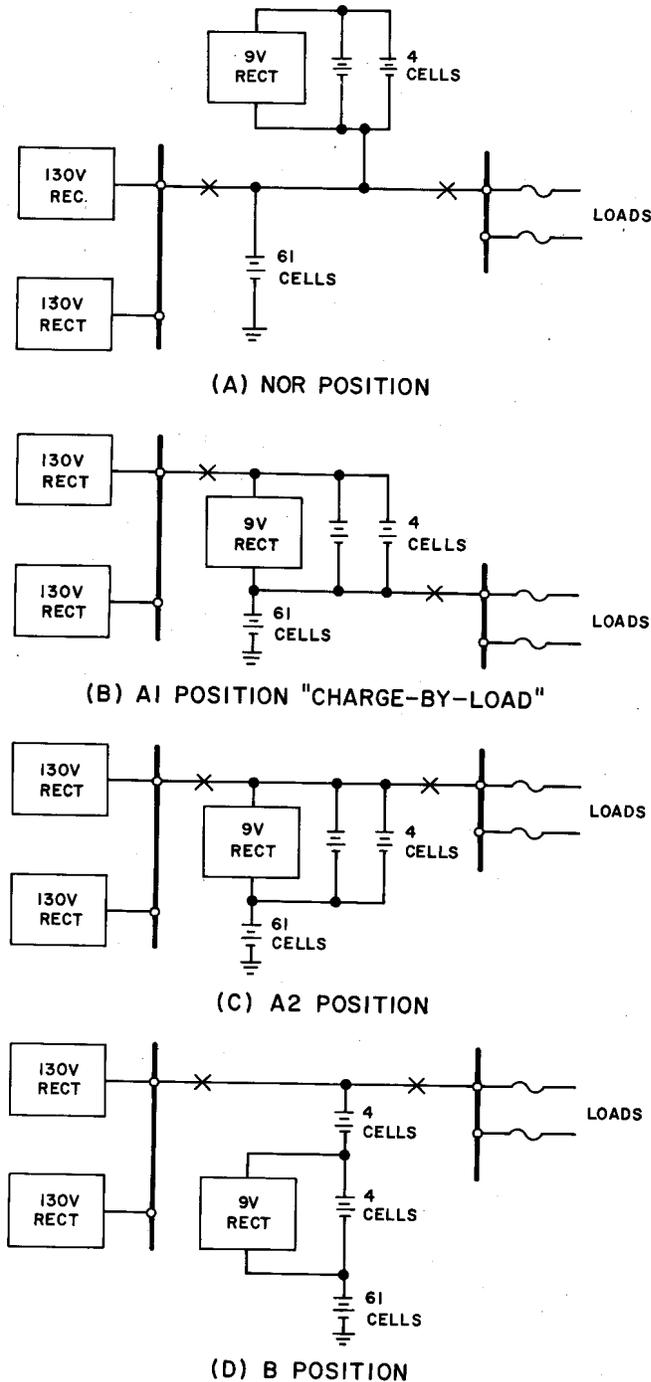

Fig. 3—Emergency Cell Switching Schematic
3.10 Recharging After Power Failure: When a power failure occurs, the emergency cells and load will be switched through the sequences shown in Fig. 3. The 708A plant is arranged to supply the load and begin the recharge of the series-connected main and emergency cells upon restoration of ac power. As the charge progresses,
the emergency cell switch will automatically switch the emergency cells from the B to the A2 and A1 positions (from a series to parallel connection) as shown in Fig. 3, while still supplying the load. Prior to switching back to normal operation (NOR position), the main cell rectifiers will supply the load and main cell charge current through the parallel-connected emergency cells to provide a "charge-by-load" feature. The emergency cell rectifier will also charge the emergency cells, and this mode of operation will continue until these